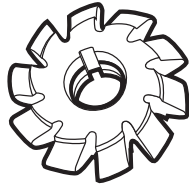

FIGURE 13—A 14-1/2° HSS involute gear cutter and a chart showing the cutting range of each size
Gear cutters may be purchased from large, industrial tool suppliers. One of the best known is Manhattan Supply Company in New York. They may be reached at (800) 645-7270 or you may go to their web site at www.msdirect.com to order their catalog or CD-ROM. For example, on page 540 of their 1999 catalog, an involute gear cutter with 14-1/2° pressure angle and a 24 pitch in a #3 cutter is P/N 03192432 and lists for \$20.70 (1999). They carry a complete selection of 14-1/2° and 20° HSS gear cutters in stock. The chart in Figure 13 on the next page shows what size cutter is used based on how many teeth are to be cut on the gear.